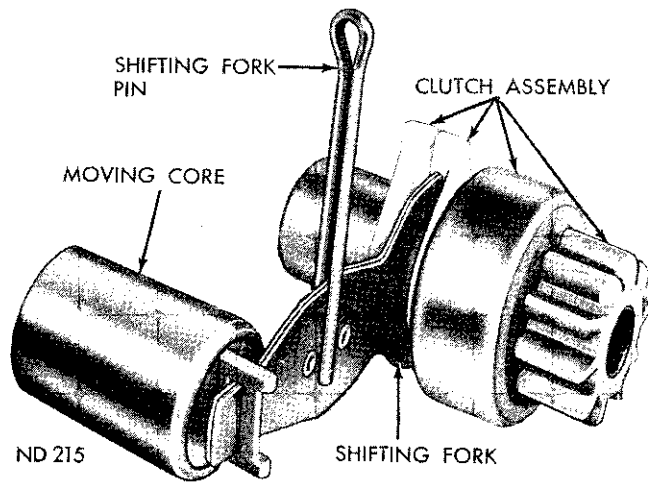

Fig. 17—Shifter Fork and Clutch Arrangement
- (5) Complete installation of pinion shaft, engaging shifting fork with clutch actuators. Figure 17 shows